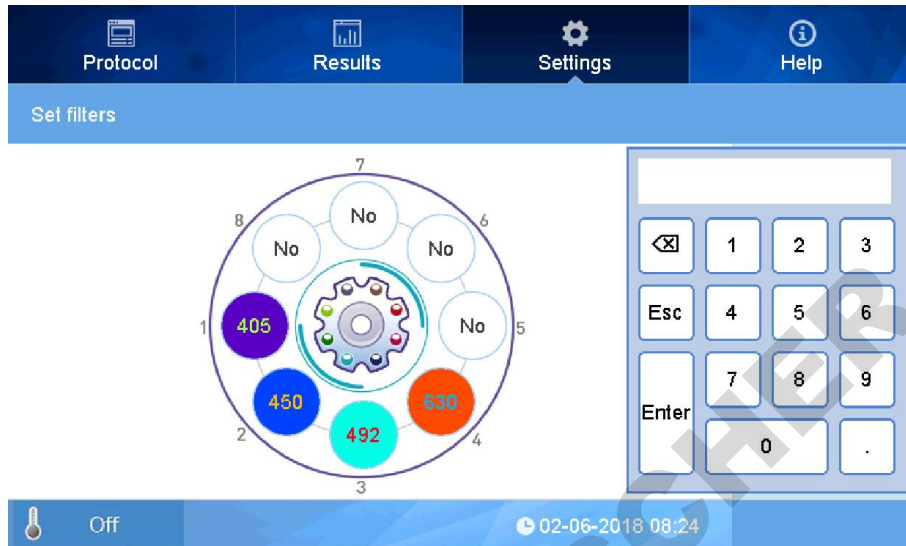

fig 50
- lick the blank position No., input the wavelength, default unit is nm(Fig 50).